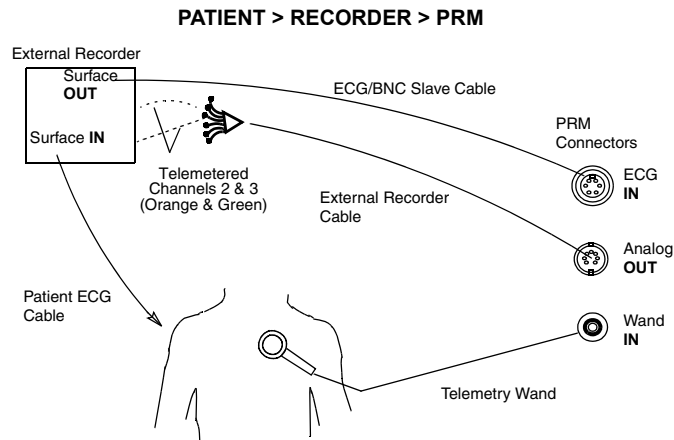

Figure B-2. External recorder gets surface signal and sends it to the PRM. PRM sends electrograms to the external recorder.
- Patient to external recorder to PRM (Figure B-2 on page B-3)
To display a tracing on an external recorder and the PRM without using the patient ECG cable, set up equipment as shown in Figure B-2.